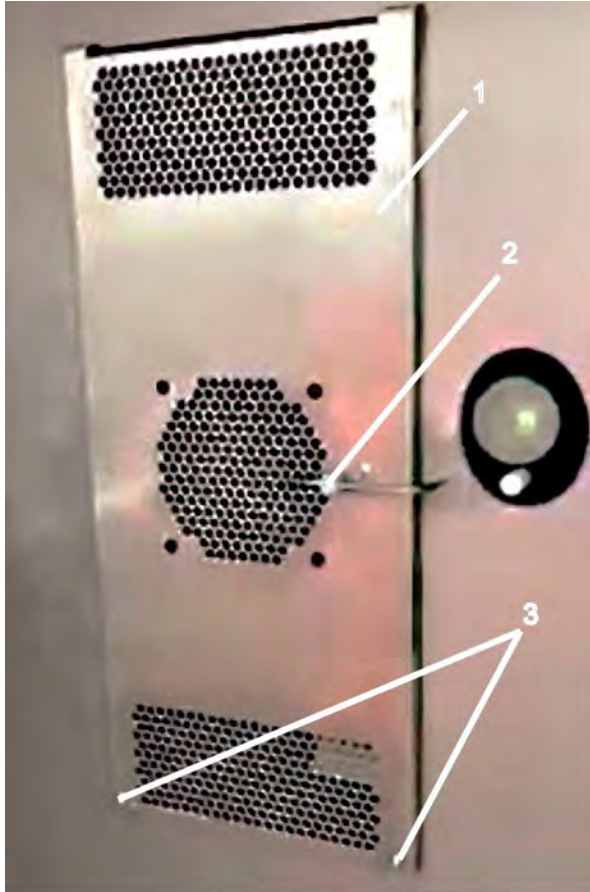

Figure 8-3. Cleaning Peltier-System - 1
3. Pull the temperature sensor (Figure 8-3, 2) off the air baffle (Figure 8-3, 1) and swivel it downwards to the side.
4. Loosen 2 bolts (Figure 8-3, 3).